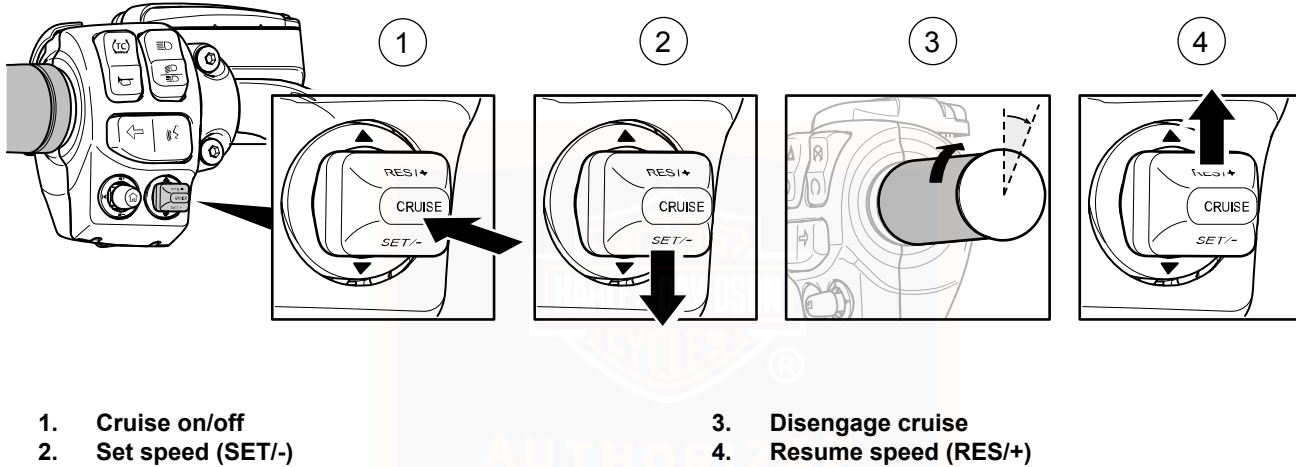

Figure 46. Cruise Control
See Figure 46. Press the CRUISE switch to turn on cruise (1). When on, the cruise indicator on the IM will be displayed in green color without speed.
See Figure 46. When the motorcycle reaches your intended speed, press the SET/- switch down to set the cruise speed (2). The cruise indicator will now have the set speed shown next to it in green.
See Figure 46. To drop out of cruise speed, roll the throttle closed through the roll-off switch (3). The cruise indicator and set speed will change to a red color.
See Figure 46. If cruise has been disengaged yet the cruise icon is still shown, pressing the RES/+ switch up resumes cruise (4). The motorcycle automatically resumes cruise at the set speed and the indicator and set speed change back to a green color.